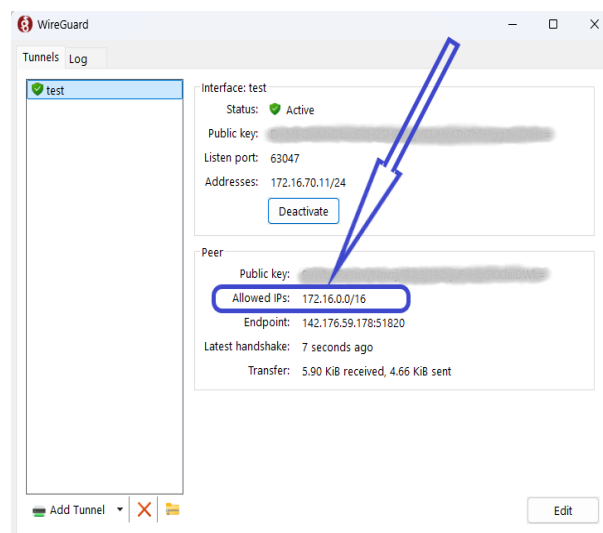

Figure 6-2 WireGuard Allowed IPs
6. Allowed IPs are in the **“WireGuard”** (Figure 6-2).